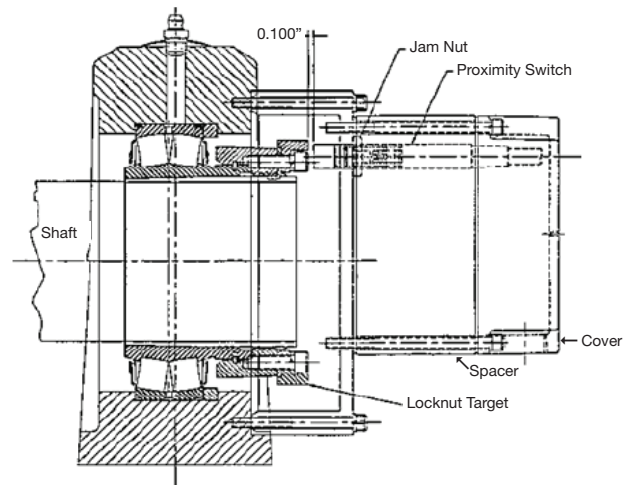

Figure 3 - ISAF Smart Housing Proximity Switch Installed to 0.100" Gap
- Rotate the bearing until a proximity switch target aligns with the proximity switch hole in the end cover. Screw the proximity switch into the end cover until it bottoms out on the target. (Refer to Figure 3).